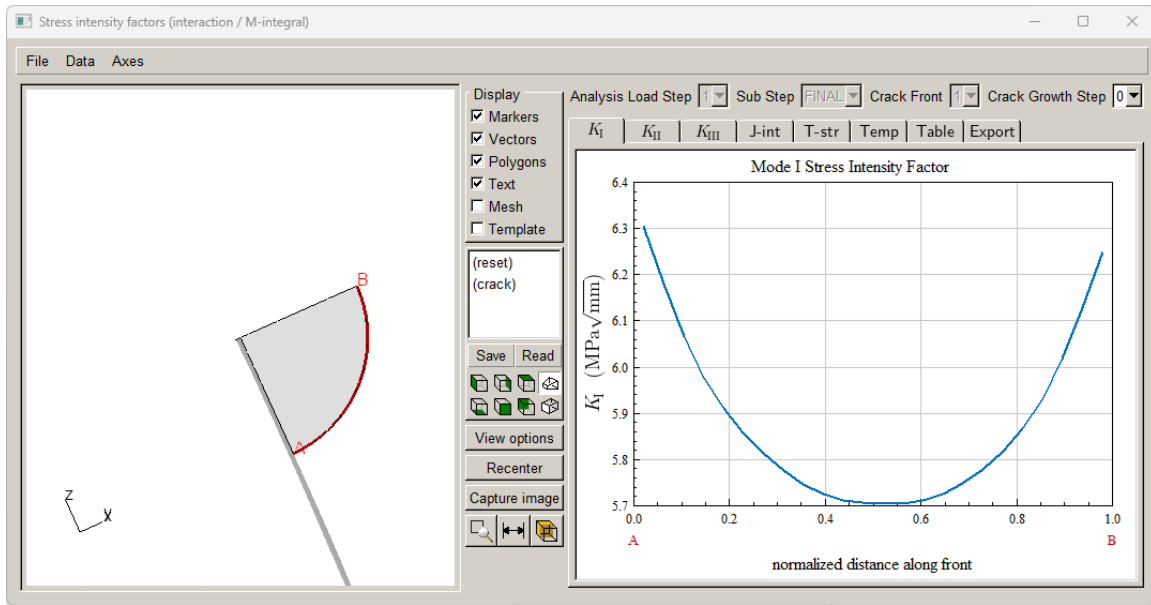
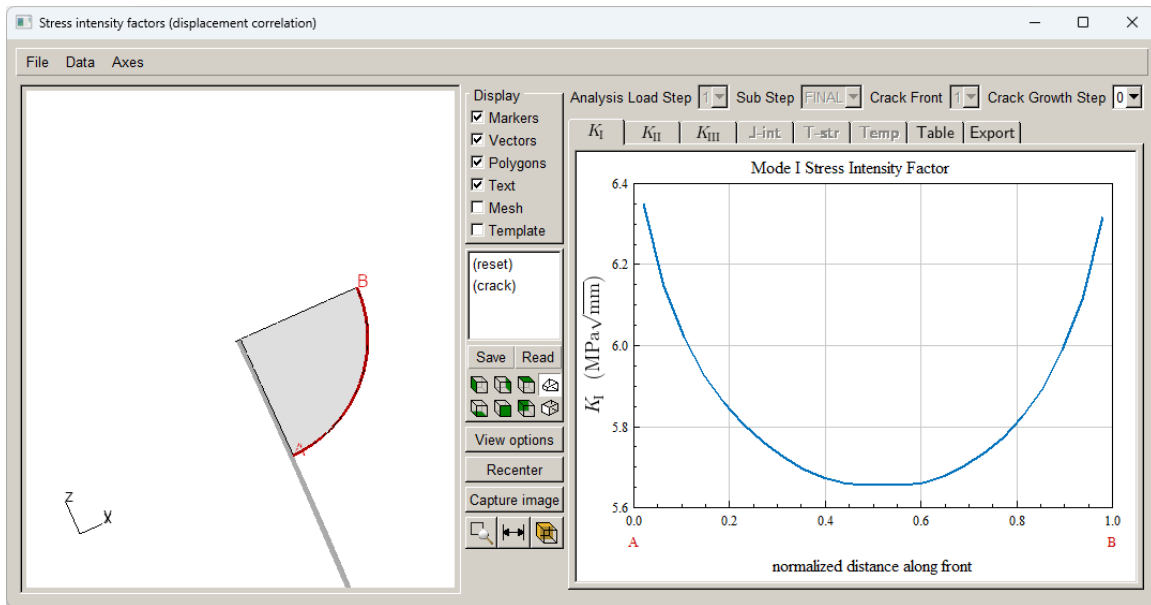

Figure 4.16 M-Integral SIFs.
Figure 4.17 Displacement correlation SIFs.
The SIFs based on the M-integral are shown in Fig 4.16 and the SIFs based on Displacement Correlation (DC) are shown in Fig 4.17. It should be noted that the SIFs do not differ much, indicating that the SIFs are computed correctly. If your results differ significantly, you should ensure that the nodal temperatures and reference temperature are correct.